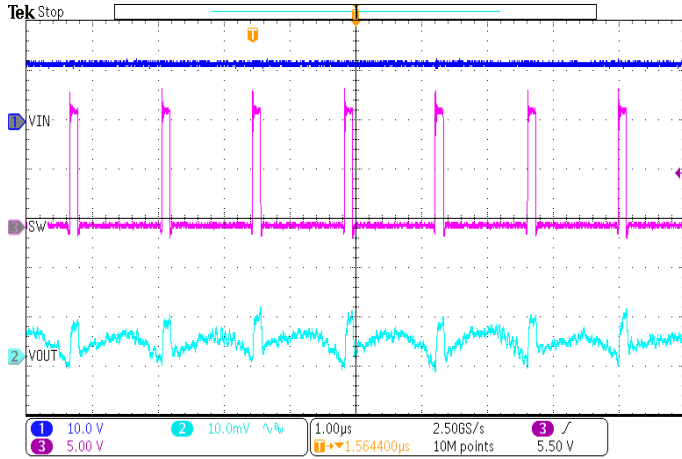

Figure 17. Switching Waveforms and Output Ripple in PSM (IOUT=2A)
The SCT2260A features external programmable output voltage by using a resistor divider network R1 and R2 as shown in the typical application circuit Figure17. Use equation (12) to calculate the resistor divider values.